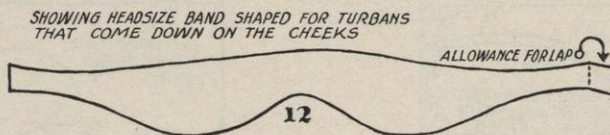

FIG. 12.
8. Sometimes headsize bands are made so that they dip down over the cheeks and curve across the forehead (see Figure 12). Many turbans are made this way at the present time. Such headsize bands are rarely wired. This type of headsize band may be made of single or of double crinoline or of any other material that the designer chooses